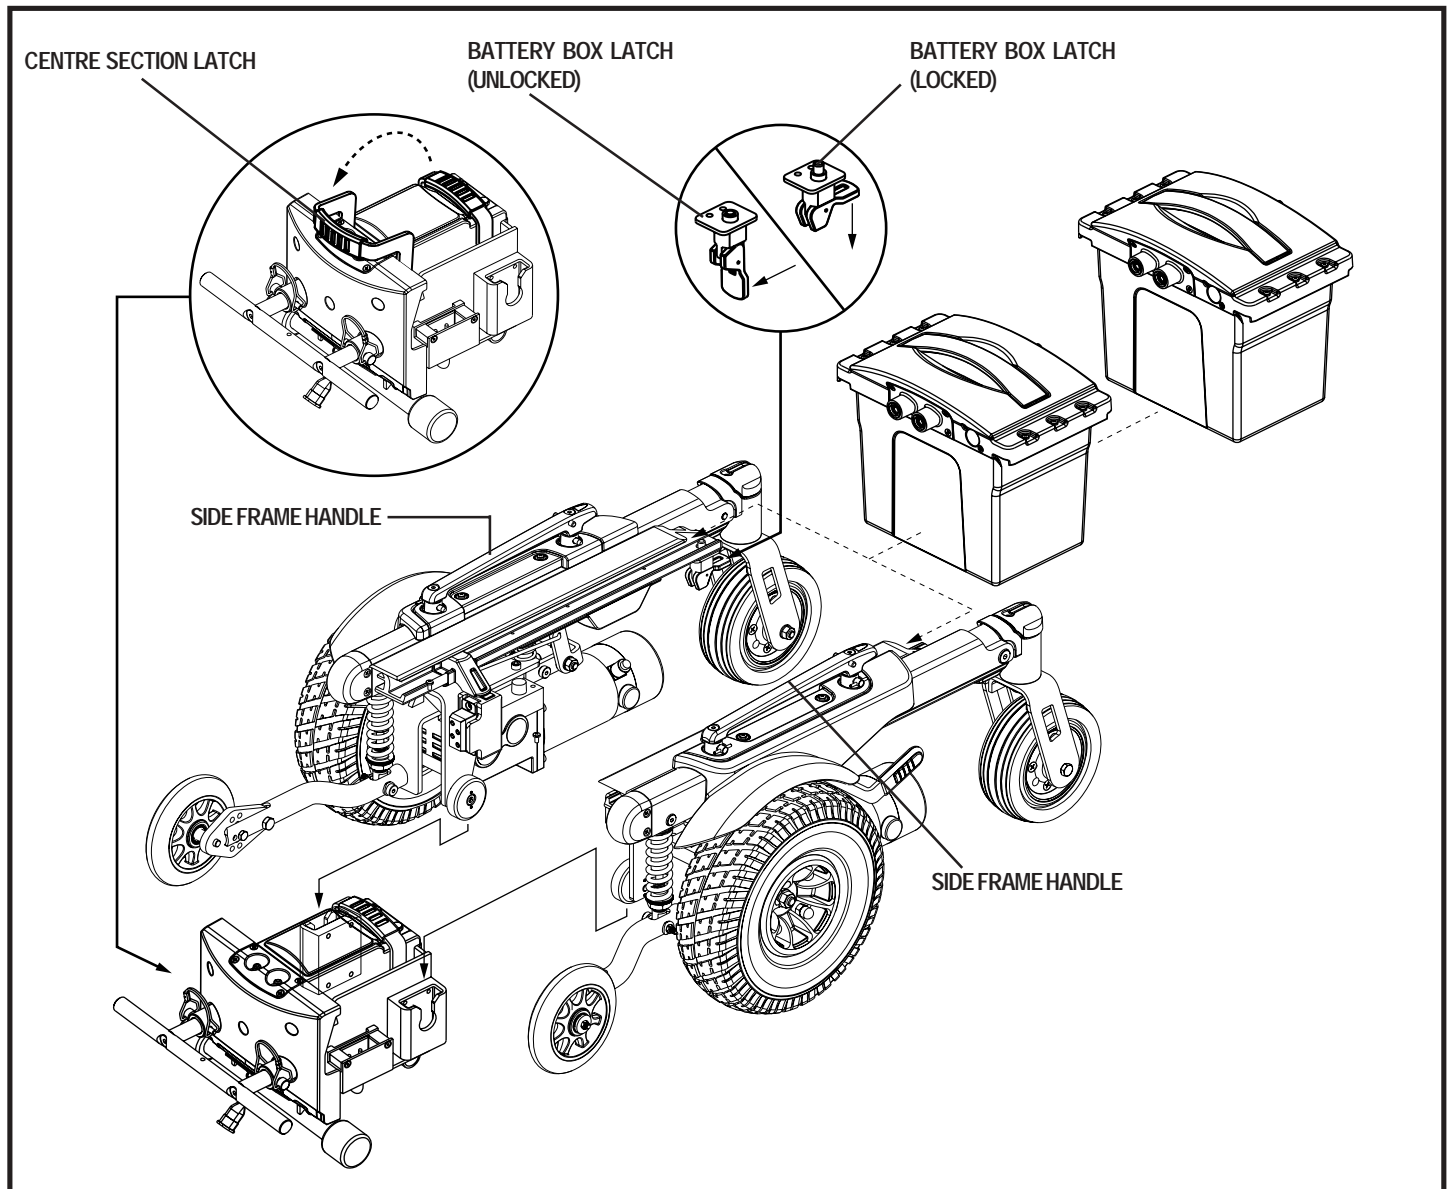

Figure 13. Quantum Dynamo 1107 Battery Box Removal and Frame Separation
5. Flip down the battery box latches on each side of the power base. See figure 13.
7. Flip up the centre section latch. See figure 13.
9. Grab a side section by the side frame handle. See figure 13.